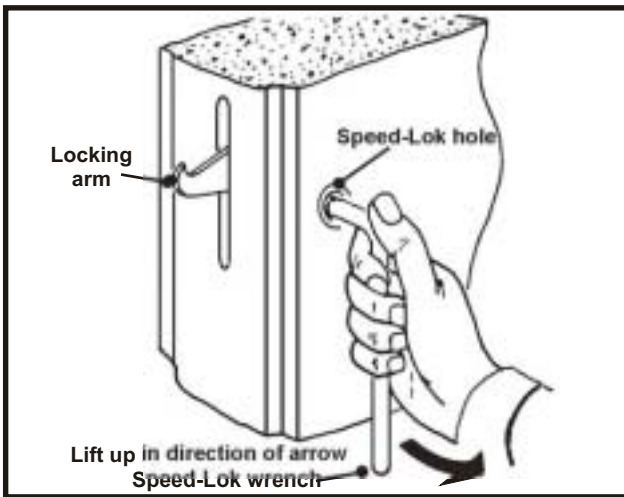

Fig. 5
2. Position the lock wrench on the hex rod and turn clock-wise until the locking arm protrudes as shown in Fig. 5.
3. Place your hand near the bend in the wrench as shown in Fig. 5 and use a lift-up motion (direction of arrow). This will produce a clamping action on the hex rod. While doing this, pull forward until the rod is free of the panel. The locking arm will then drop free.